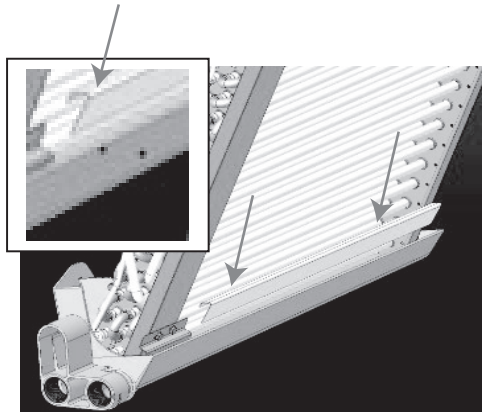

Fig. 3 – Pan Baffle
- Install the pan baffle into the pan as shown in Fig. 3 and Fig. 4.
- For orientation of the pan baffle, refer to Fig. 3. The straight side of the baffle will be against the inside of the pan, with the angled part facing the coil.